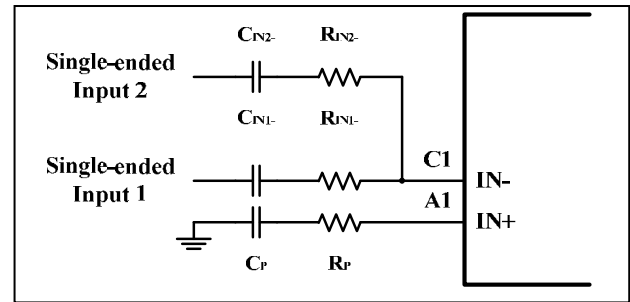

Figure 11 Summing Two Single-Ended Inputs
The gain and corner frequencies ( $f_{C1}$  and  $f_{C2}$ ) for each input source can be set independently (see Equations (11) through (14) and Figure 11). Resistor,  $R_P$ , and capacitor,  $C_P$ , are needed on the IN- terminal to match the impedance on the IN+ terminal. The single-ended inputs must be driven by low impedance sources even if one of the inputs is not outputting an ac signal.